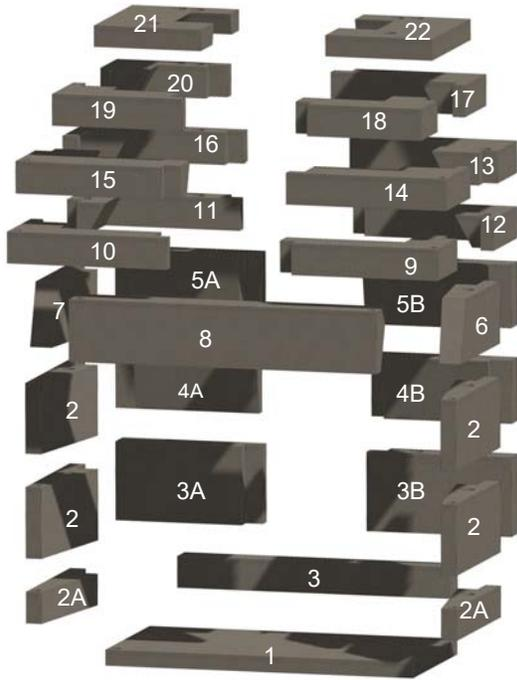
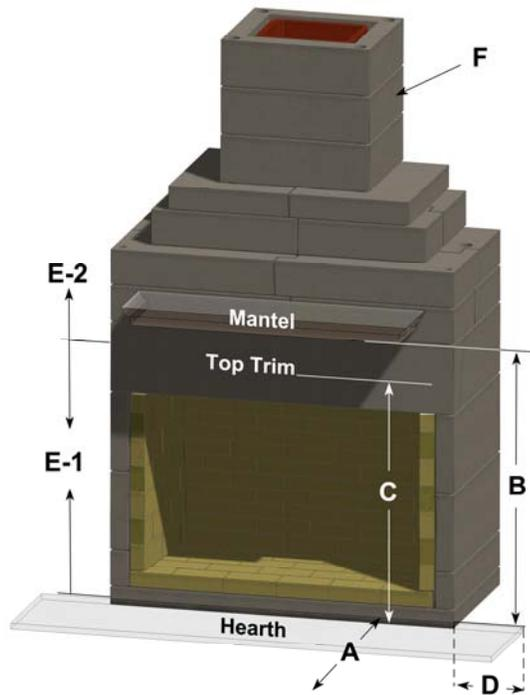

Figure 2. Fireplace Components
Figure 3. Clearances (Use with Table 2)
The fireplace is delivered as a kit with all components necessary to complete the installation. The kit is configured for a flue chimney, but a special adapter is available for a metal chimney. Component arrangement, some of which is optional, is shown in Figure 2. Components are shown in Table 1. Specifications and installation dimensions are shown in Table 2.
- A. Fireplace items shown in Figure 2 and listed in Table 1.
Table 2: Clearances (See Figure 3)
| Item | Clearance | Figure 2 Reference |
Select a wall location in the home plans where all the minimum distances, as shown in Table 2 and Figure 3 can be met. Proceed as follows. Numbers in () are item numbers from Table 1 and Figure 2. Ensure the base on which the fireplace is to be installed is a solid and level foundation and is composed of non-combustible material, such as concrete.
O. Install the hearth and or hearth extension. Ensure the Table 2 and Figure 3 clearances and distances are maintained. Ensure that the hearth and flooring under and in front of the hearth are made of fully non-combustible materials, not just a non-combustible floor covering. When the hearth installation is complete, you are now ready to install the exterior.